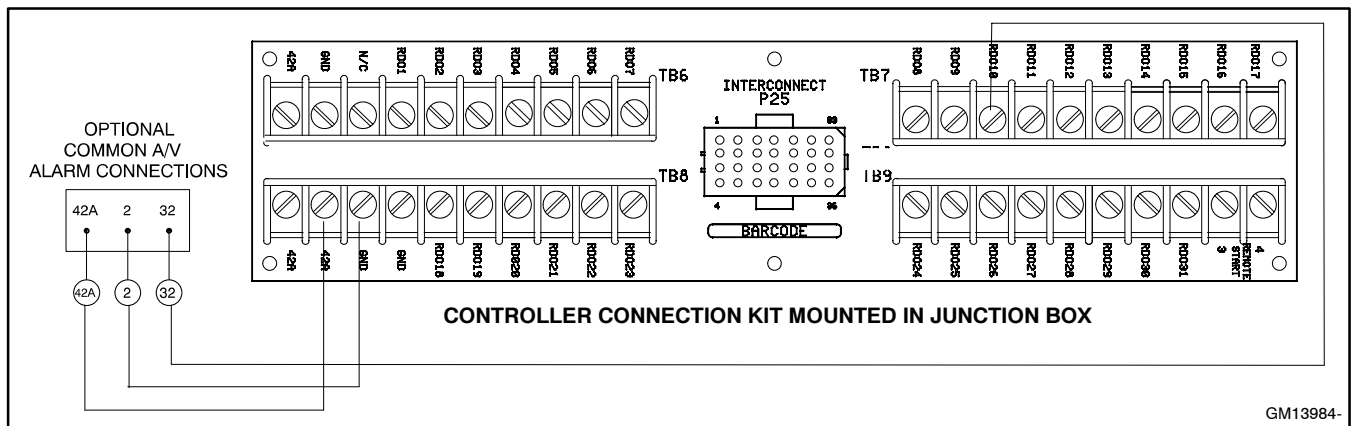

Figure 7 Audiovisual Alarm Connections to the 550 Controller (Connection to Common Fault Terminal 32 Shown)
- 3.5 Route the three leads to the controller connection assembly in the generator set junction box. Cut leads to length, strip wire ends, crimp-on spade terminals (not supplied), and connect the leads to the screw terminals shown in Figure 7. Keep the audiovisual alarm leads away from the generator set output leads.